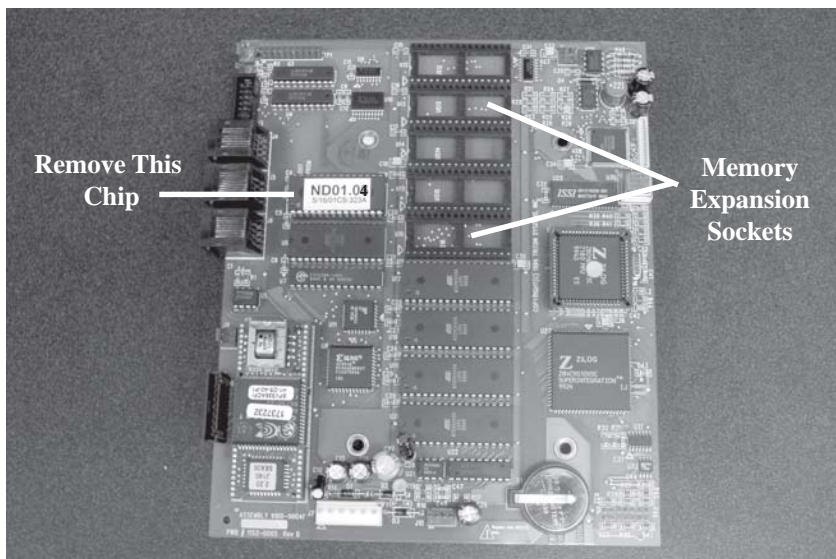

Figure 5. Main board assembly.
- The EPROM chip is located on the main board. (A white label is affixed to the chip) Remove the EPROM chip that is immediately to the left of the memory expansion sockets (Figure 5). The use of an IC chip puller to perform this step is recommended; however, a small flat-blade screwdriver can be used. Place the tip of the screw driver between the chip and its socket, and twist the tip slightly to begin lifting the chip from the socket. Move the tip of the screw driver to the opposite end of the chip and repeat. By alternating sides and lifting the chip a small amount each time, you will eventually release the chip from its socket. At this point, carefully remove the chip from the main board.